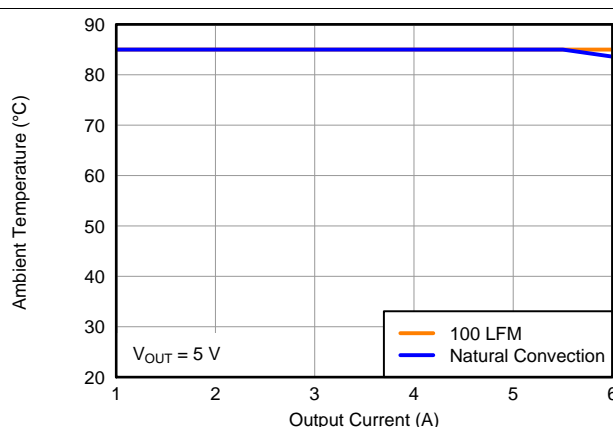
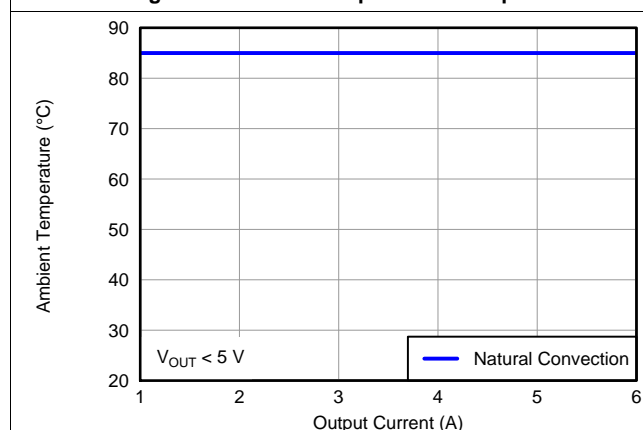

Figure 14. Safe Operating Area
Figure 15. Safe Operating Area
- (2) The temperature derating curves represent the conditions at which internal components are at or below the manufacturer's maximum operating temperatures. Derating limits apply to devices soldered directly to a 100 mm x 100 mm double-sided PCB with 1 oz. copper. Applies to Figure 14 and Figure 15.